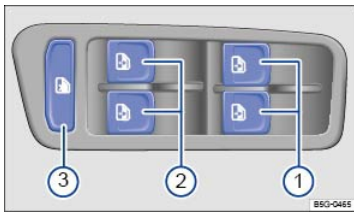

Fig. 74 In the driver door: Switches for the front and rear power windows (4-door version shown).
Key to ⇒ Fig. 74 :
- ① For the windows in the front doors.
- ② For the windows in the rear doors.
- ③ Safety switch.
- The safety switch ⇒ Fig. 74③ deactivates the power windows in the rear doors (4-door models only). The yellow indicator light in the switch comes on.